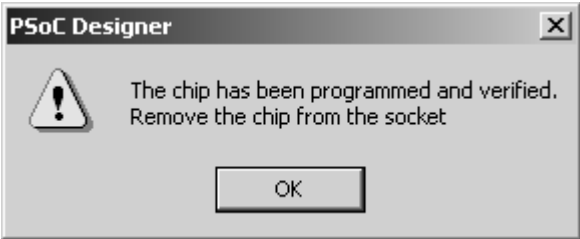

Figure 10: Successful Programming Dialog Box
- 7. After the part is inserted and you click **OK**, you will see the percent of progress. When programming is successfully complete, you will see the dialog box in Figure 10. Click **OK**.